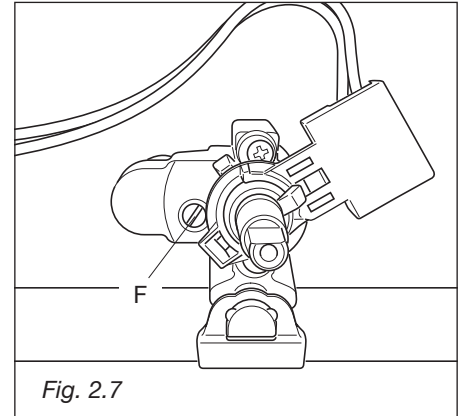

Fig. 2.7
- With a thin screwdriver turn the screw **F** until adjustment is correct (fig. 2.7).